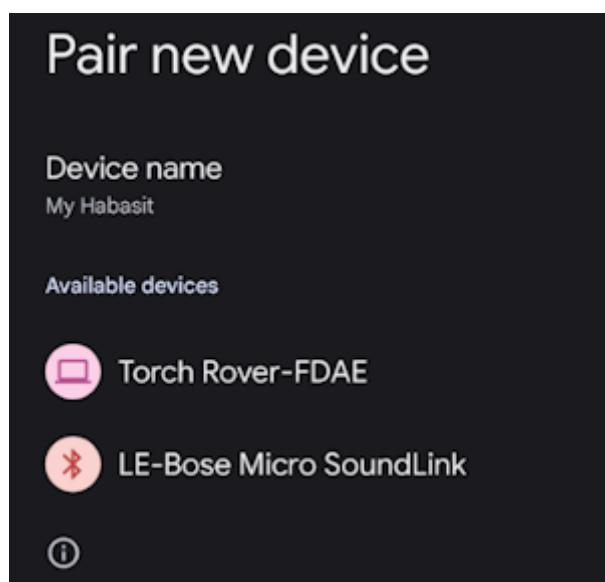

Figure 3
- From your cell phone, open Bluetooth settings and pair it with a new device. You will see a list of available Bluetooth devices. Select the 'Torch Rover-3AF1'. The '3AF1' is the last four digits of the device's MAC address and will vary depending on the device (Figure 3).